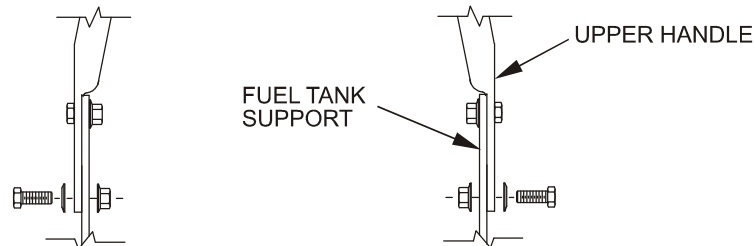

FIGURE 1
- 3.8 Position the lower end of the handle assembly on the outside of the upper rear section of the fuel tank and handle support. Install four 3/8-16 x 1" bolts (with four spring disk washers against the head of each bolt) from the outside in. Secure using four 3/8" whizlock nuts on the inside of each handle support and tighten until the spring disk washers are flat (See Figure 1).